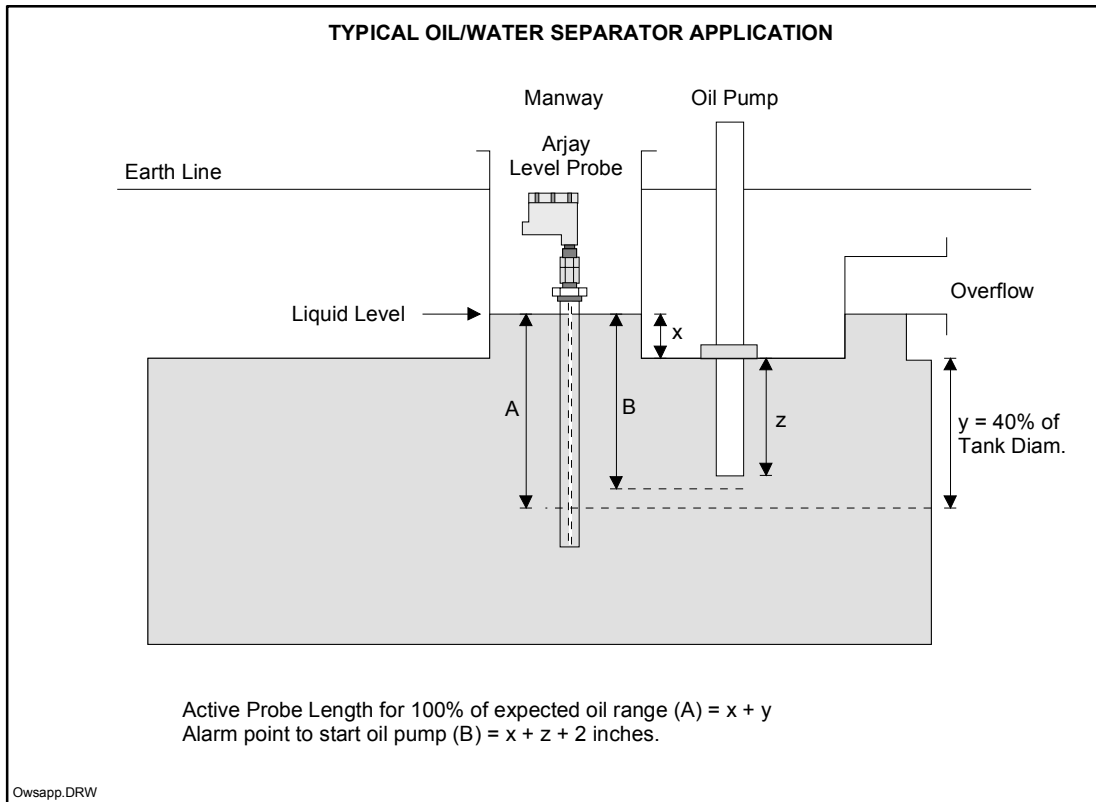

Figure 2.1
Figure 2.1 shows a typical Oil/Water Separator application. The Active Probe Length (A) is the length along the probe corresponding to the maximum anticipated oil level.